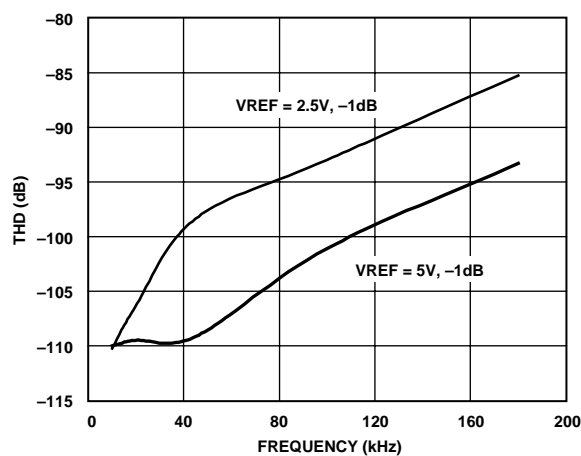

Figure 15. THD, ENOB vs. Frequency
- For ac applications, the driver needs to have a THD performance suitable to that of the AD7684. Figure 15 shows the THD vs. frequency that the driver should exceed.